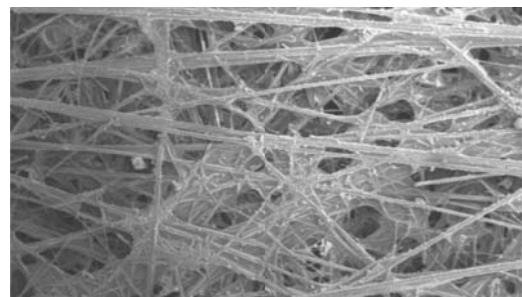

Figure 4 - Brand D
- Figure 4, however, does not have a closed matrix. The surface in Figure 4 shows a layer of un-incorporated fibers indicating a highly porous, textured surface.